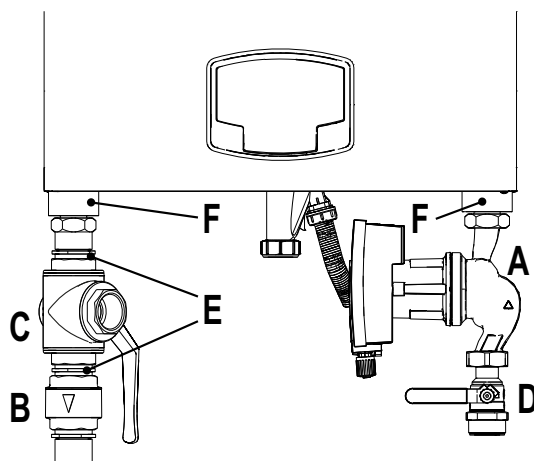

fig. 34- Boiler with installed kits
code 042070X0 - HIGH EFFICIENCY CIRCULATING PUMP KIT- 7m. (A - fig. 34)
code 042071X0 - HIGH EFFICIENCY CIRCULATING PUMP KIT- 10m. (A - fig. 34)
- 1 **NON-RETURN VALVE - Female 1"1/2** (B - fig. 34)
- 2 **3-Way FAUCET - Female 1"1/2** (C - fig. 34)
- 3 **FAUCET Male/Female 1"1/2** (D - fig. 34)
- 4 **CONNECTION NIPPLE 1"1/2** (E - fig. 34)
- 5 **Flow and Return connection pipes 1"1/2** (F - fig. 34)